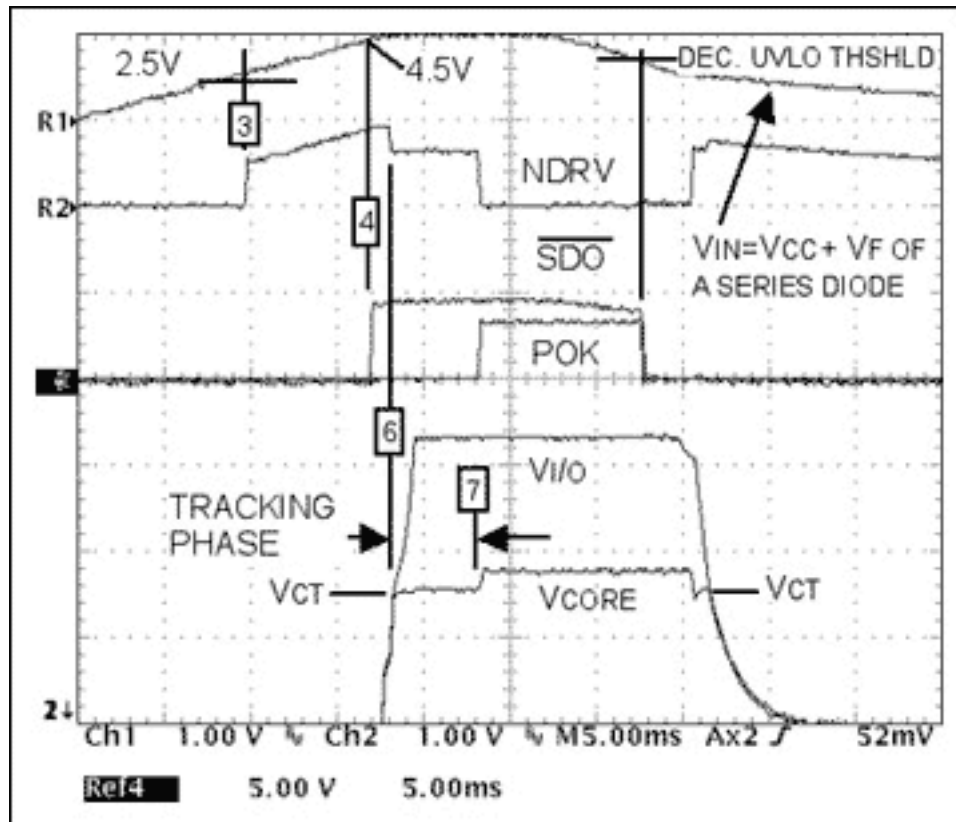

Figure 4. Startup/Shutdown Operation,  $V_{I/O}$  Enable Precedes  $V_{CORE}$  Enable.
1. Startup operation is initiated when  $V_{CC}$  is applied (either ramped or stepped up from zero). Refer to Figure 4.
CORE drops to the core regulation voltage set by R1/R2 (perhaps due to an unexpected high-current load or a short), NDRV will be driven high to re-assert the regulation mode. Refer to Figure 4.